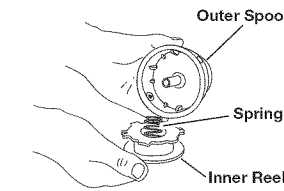

Fig. 15
2. Remove the inner reel from the outer spool (Fig. 15).
3. Remove spring from the inner reel (Fig. 15).
2. Remove the old inner reel from the outer spool (Fig. 15).
3. Remove the spring from the old inner reel (Fig. 15).